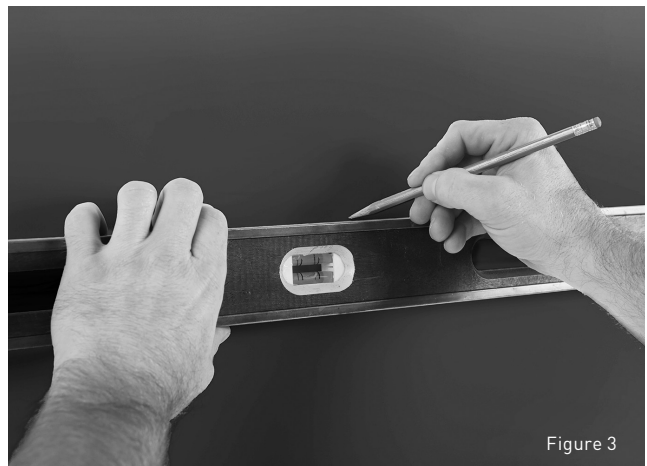

Figure 3
- 5 Draw Reference Line** Determine your starting point. Using a level and pencil, draw a straight line (or snap a chalk line) across the area on which you'll place the boards. This will ensure your starting point is level. If you are installing a full wall, it is best to start at the floor and work your way up. Always start with a level line. Floors and ceilings may vary. (Figure 3).